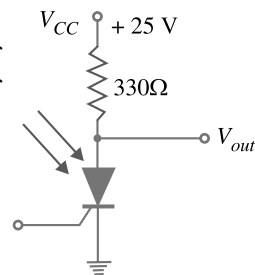

Fig. 18.31
**Example 18.19.** The circuit of Fig. 18.31 is in a dark room. When a bright light is turned on, the LASCR fires. What is the approximate output voltage? If the bright light is turned off, what is the output voltage ?
**Solution.** Fig. 18.31 shows a light-activated *SCR*, also known as a *photo-SCR*. When light falls on the device, it starts conducting and the output voltage is ideally,